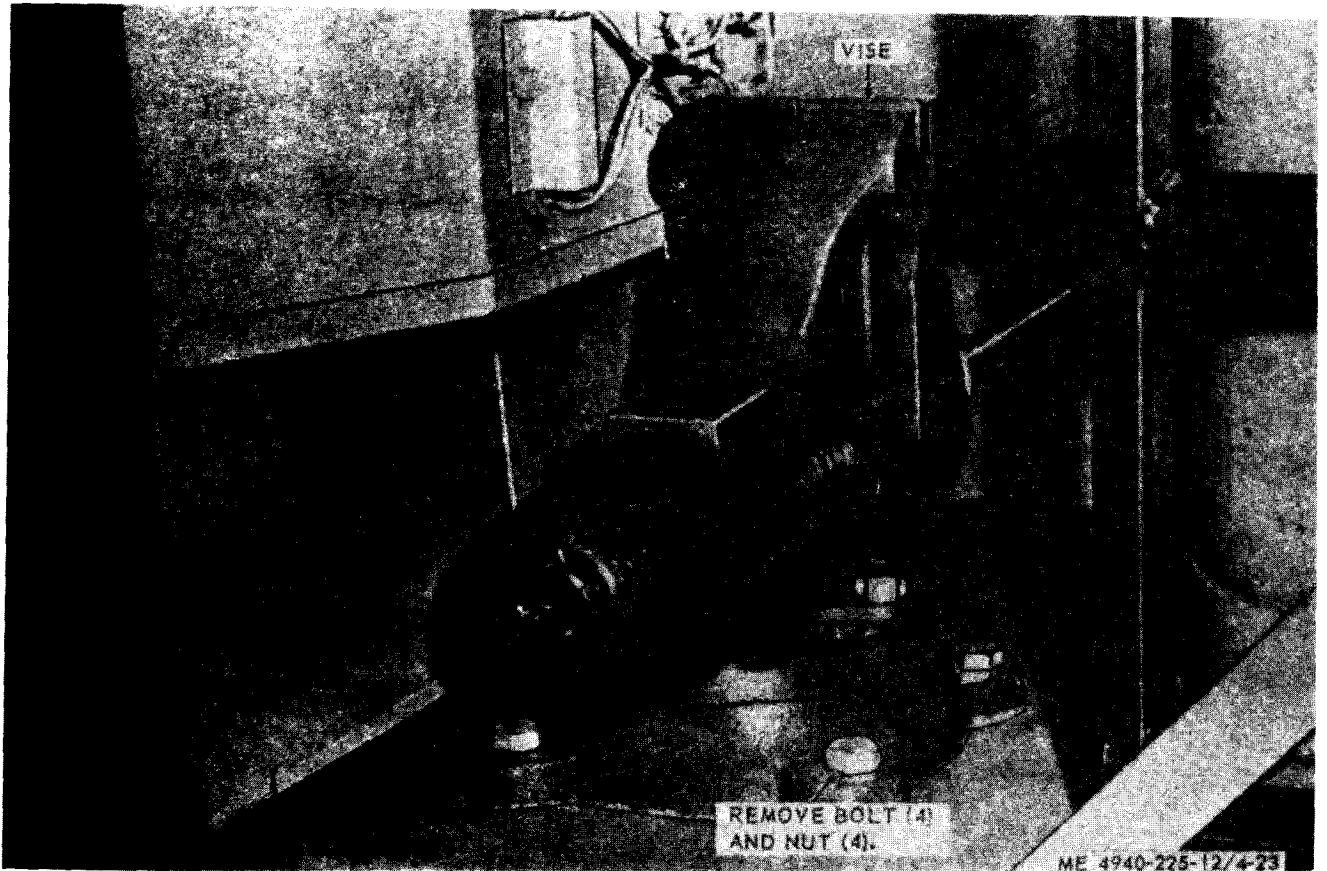

Figure 4-23. Vise. removal and installation.
a. Removal. Remove the vis as illustrated in figure 4-23.
b. Installation. Install the vise as illustrated in figure 4-23.